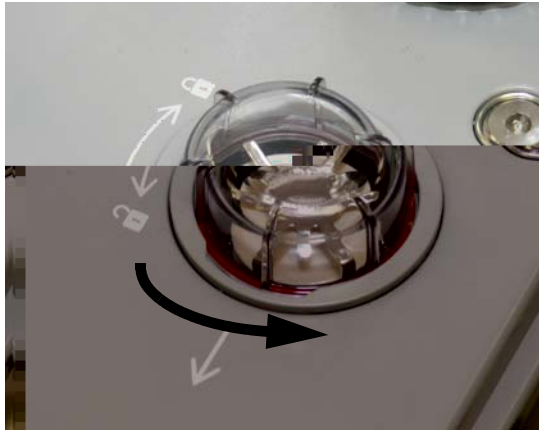

FIGURE 7-11 Valve Dome Removal
1. Remove the valve dome (see FIGURE 7-11), turning it counterclockwise.